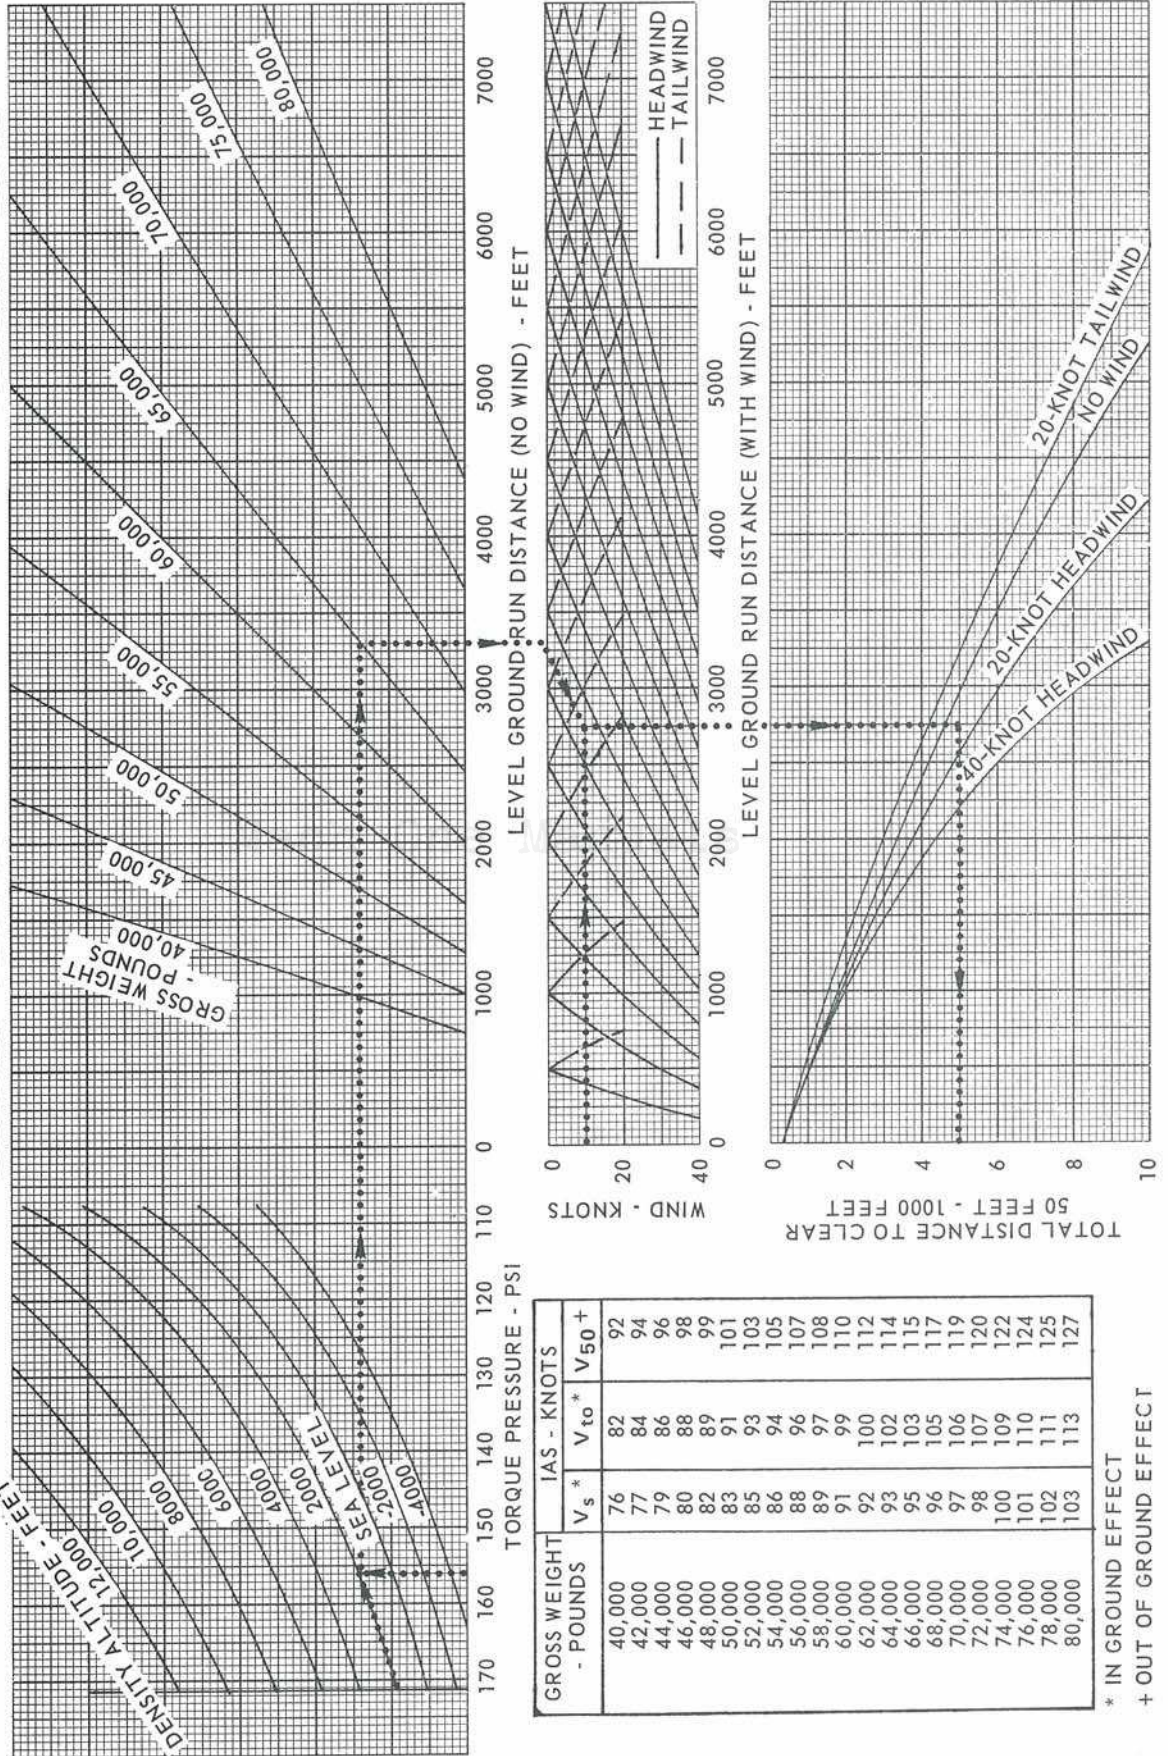

Figure A3-3
b. From figure A3-3, Takeoff Distance chart, determine horizontal distance to attain 50 foot height of 3400 feet.